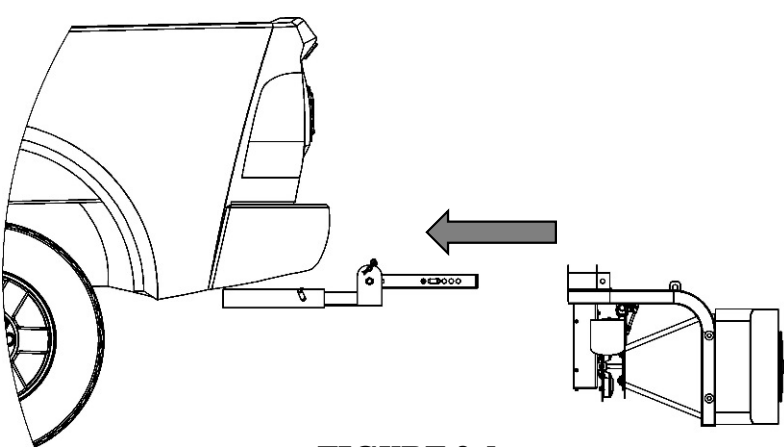

FIGURE 9.1
1. Place the Receiver Assembly into your vehicle's Receiver Tube in the orientation shown below in **FIGURE 9.1**. There are multiple pin locations in the Receiver Tube to accommodate most types of vehicles in regard to clearance between the spreader and vehicle. Ensure the Receiver Assembly is properly pinned/secured once in the desired location using the supplied 5/8" Pin (NB702) provided.
2. With the hopper facing Spinner Disc side down, slide the Spreader Assembly onto the Receiver Assembly as shown in **FIGURE 9.1**, and pin with supplied 5/8" Pin (NB702) at the desired location. Multiple holes are provided for Height Adjustment on the Height Adjust Frame Tube to accommodate most vehicle heights.